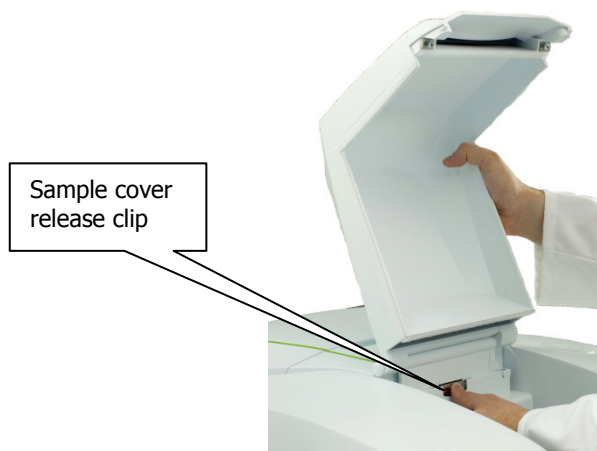

Figure 58 Removing the sample area cover
1. Remove the sample area cover if fitted by opening the cover, pressing the clip and pulling the cover vertically to remove (Figure 58).